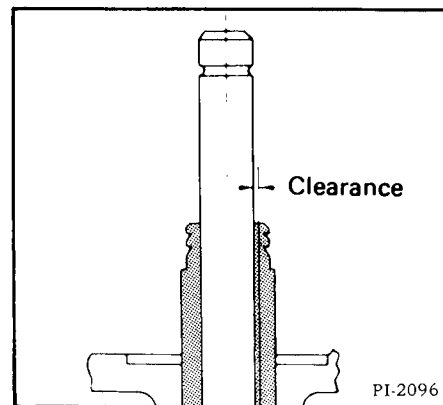

Fig. 8-19 Check Valve Stem Wear
- (1) Check for amount of wear of the valve stems in the valve guides (Fig. 8-19).